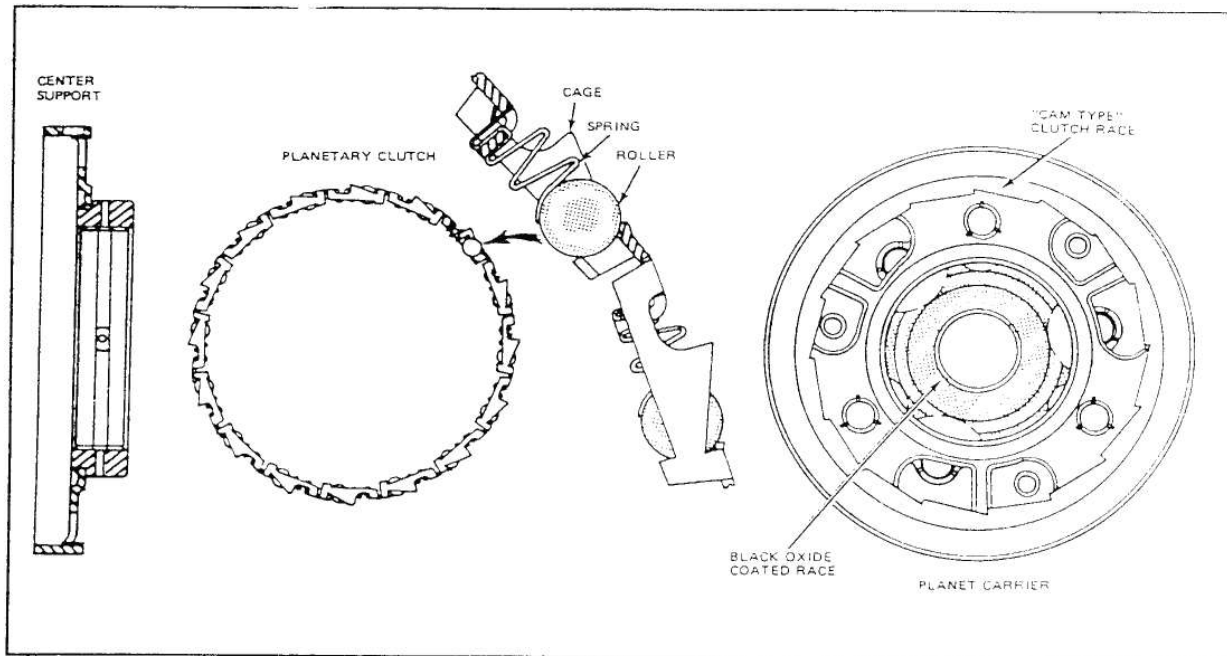

FIG. 30 Roller Type Planetary Clutch, Carrier and Center Support—AOD
- 1. Inspect the clutch outer race, inner race, band surface, pinion gears, bearings, and thrust washer (Fig. 30) for roughness.